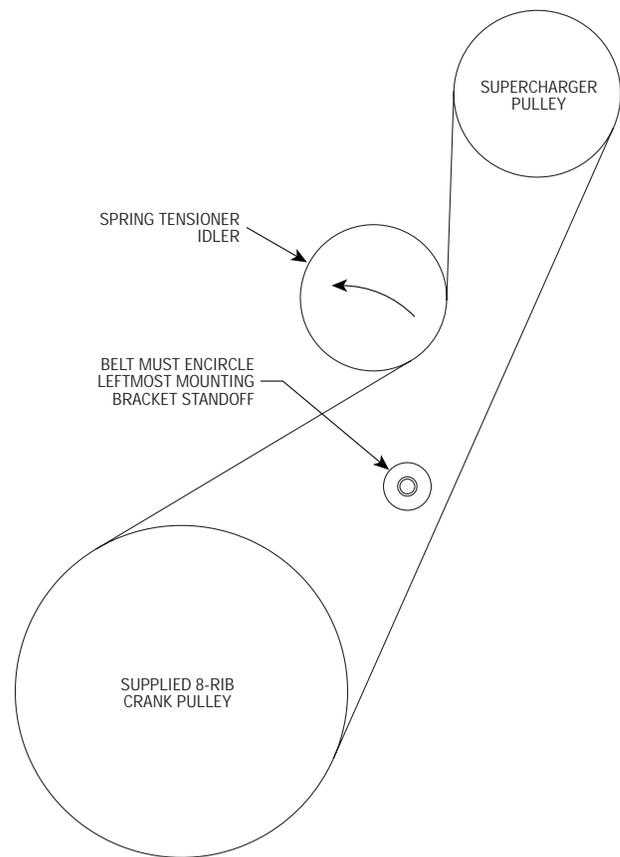

Fig. 8-c
- E. Attach the supercharger plate assembly to the mounting bracket using the supplied 3/8" x 1-3/4" screws and washers. Install the supplied 4" spacers into the two remaining supercharger mounting plate locations and install the supplied 3/8" x 5-3/4" screws and washers. Tighten the screws. (See Fig. 8-b.)